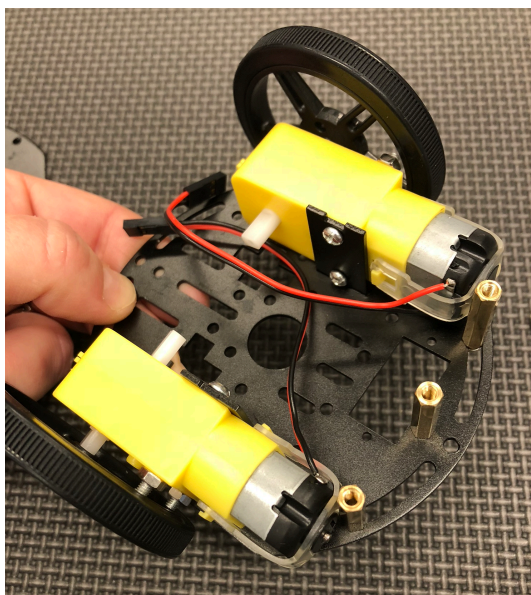

Figure 4. Motors fitted in the frame.
4. Place the motors on top of the frame as shown in Figure 4. The metal plates installed in the first step fit perfectly in the chassis holes so that the motors won't move around.